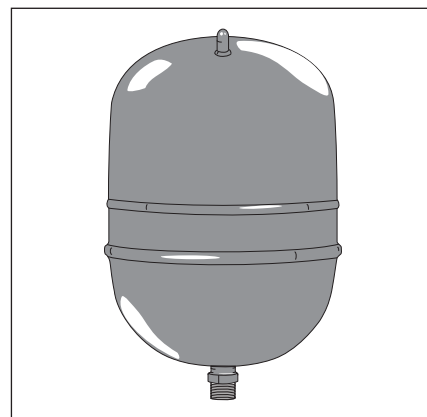

Figure 6 - A Thermal Expansion Tank helps protect the home's plumbing system from pressure spikes.
- Thermal Expansion Tank (Figure 6 on page 7)
Verify that you have a properly sized Thermal Expansion Tank (Figure 6). We recommend installing an expansion tank if your home does not have one. Codes require a properly pressurized, properly sized Thermal Expansion Tank in all homes that have backflow, check or pressure reducing valves (see illustration on inside front cover).